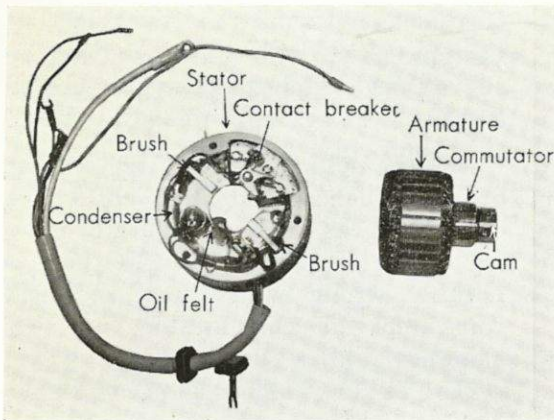

Fig. 24
(See Fig. 24)
- As shown in Fig. 24, the stator is fitted with brushes, an oil felt, a contact breaker